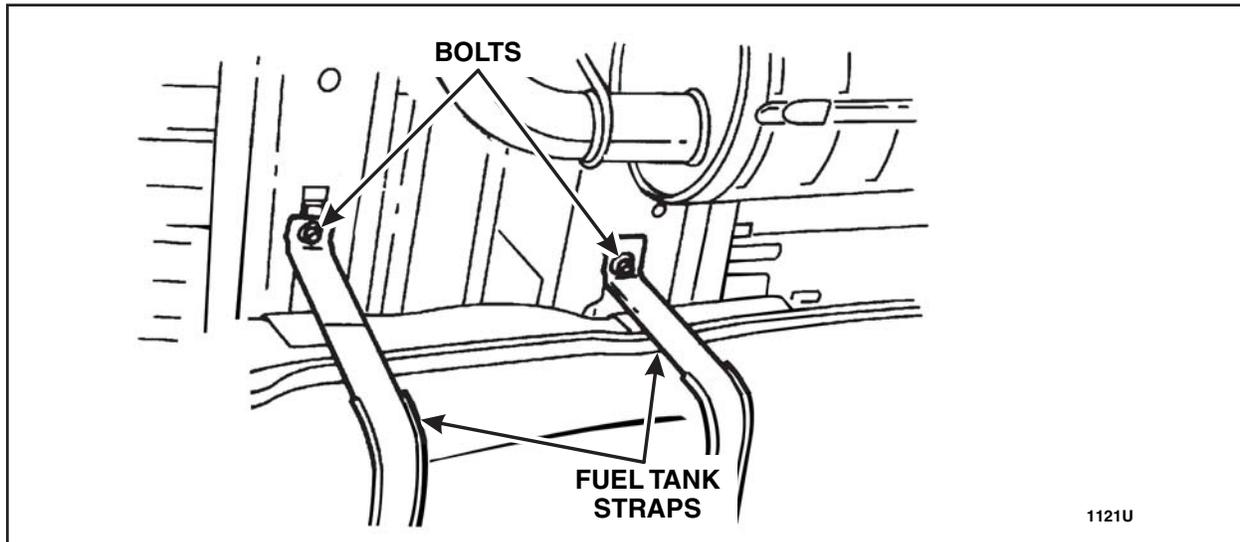

FIGURE 1
1. Remove both fuel tank straps. See Figure 1.
2. Install both Type 1 Straps. See Figure 1.